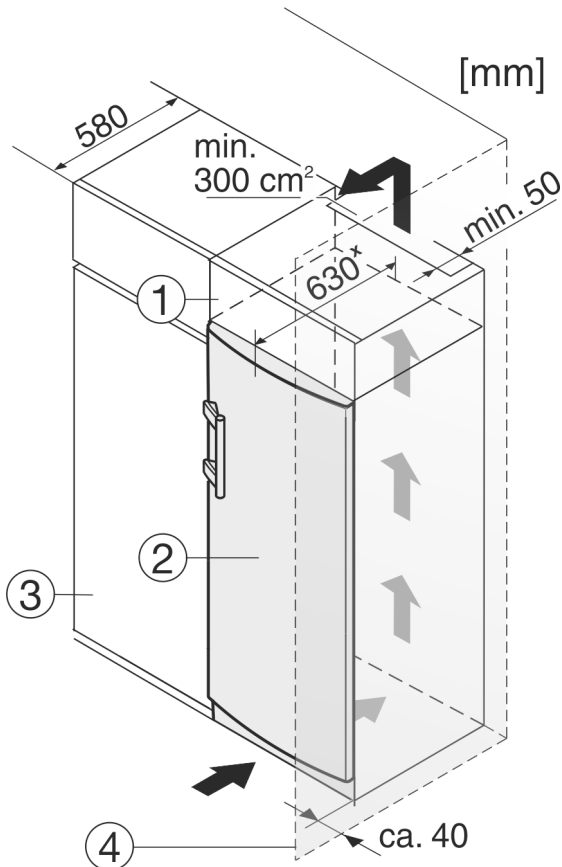

Fig. 12
- (1) Top cupboard (3) Kitchen cabinet
(2) Appliance (4) Wall
The appliance can be built into kitchen units. A top cupboard Fig. 12 (2) can be added above the appliance in order to bring the appliance Fig. 12 (1) up to the height of the fitted kitchen units.
If you are integrating the appliance into a kitchen unit (max. depth 580 mm) you can install it right next to the kitchen cabinet Fig. 12 (3). The appliance measures 34 mm * at the side and 50 mm * at the centre in relation to the front of the kitchen cabinet.
If you are installing the appliance with the hinges next to a wall Fig. 12 (4), the distance between the appliance and the wall must be at least 40 mm. This is how far the handle protrudes when the door is open.